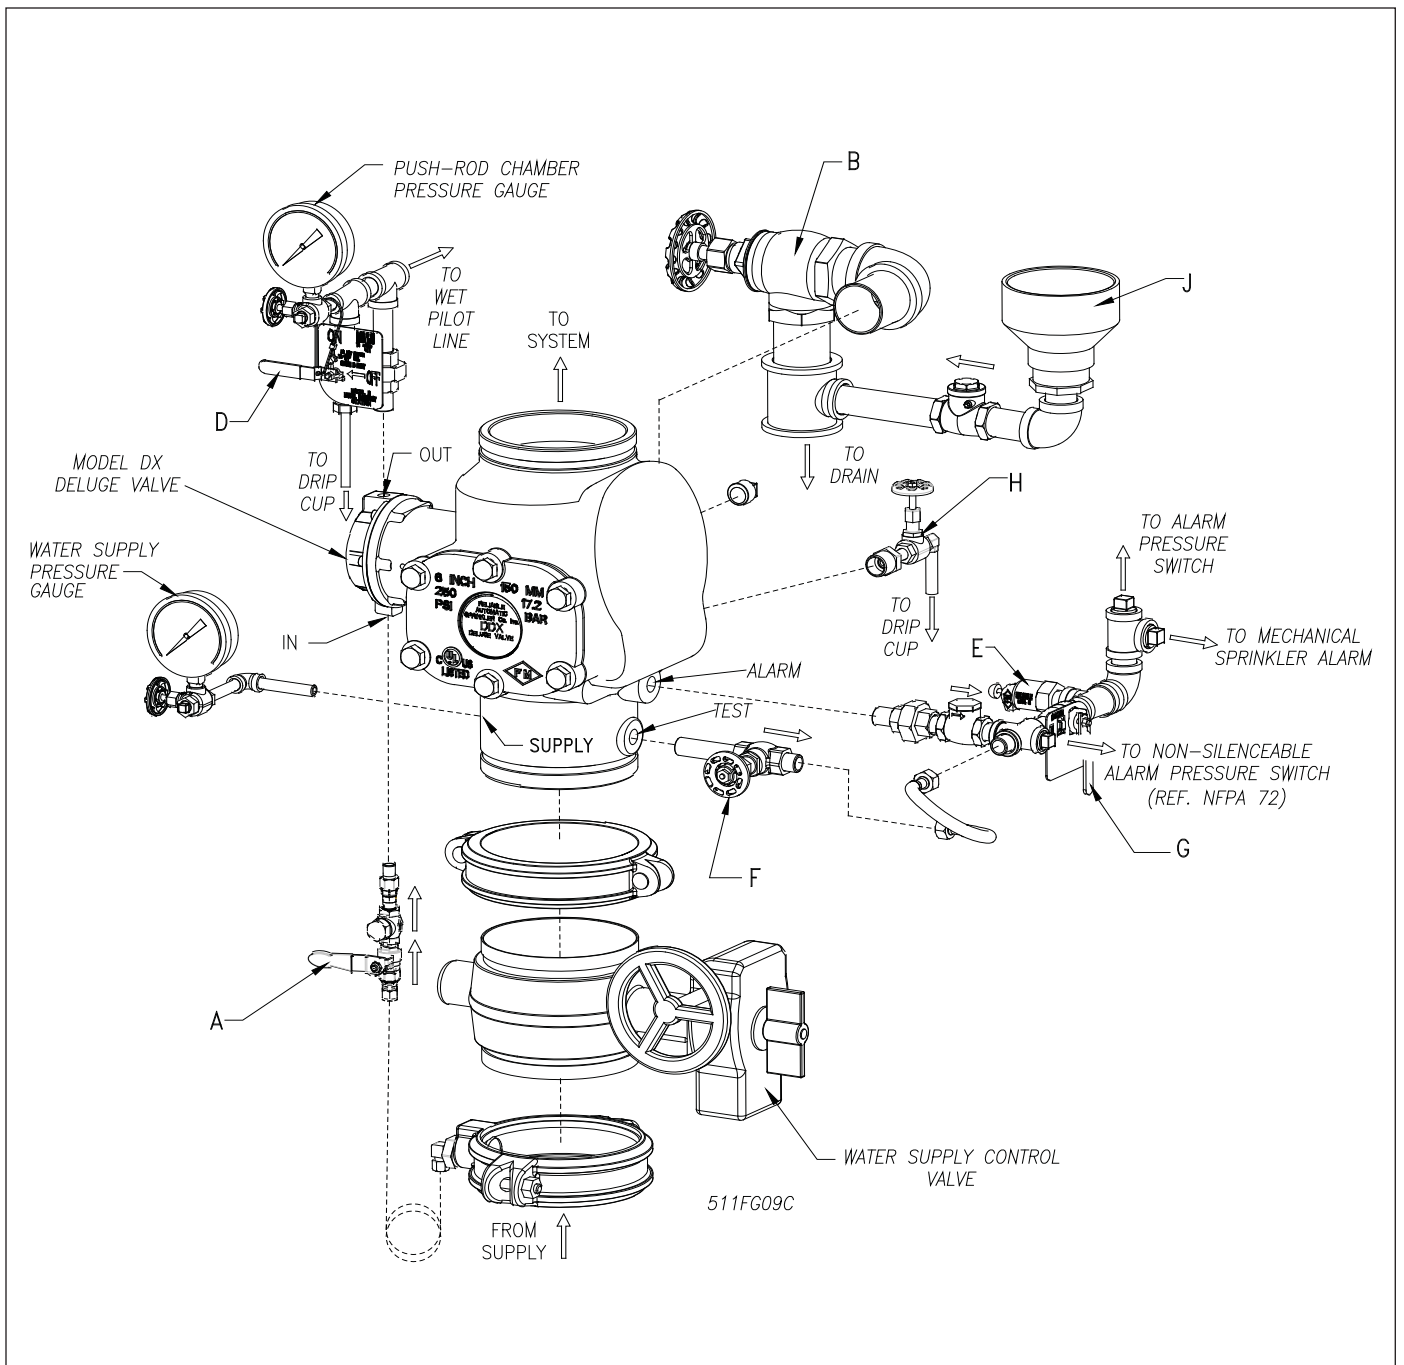

Fig. 9
1. Close the valve controlling water supply to the Deluge Valve and close valve A (Fig. 9).
2. Open main drain valve B (Fig. 9) and drain system.
3. Open all drain valves and vents at low points throughout the system, closing them when flow of water has stopped. Open valve D (Fig. 9).
4. With valve G (Fig.9) open, push in the plunger of ball drip valve E (Fig. 9), forcing the ball from its seat to verify that there is atmospheric pressure inside the main valve chamber.
7. Open valve A (Fig. 9) and allow water to fill the push rod chamber. Close valve D (Fig. 9).
- C. Dry Pilot Trim — open valve D (Fig. 9) allowing water to flow through the pilot line actuator. When all air has been expelled from the release line, and there is a solid flow of water into the drain cup J (Fig. 9), apply compressed air or nitrogen through the pressure maintenance device to close the pilot line actuator. Subsequently, close valve D (Fig. 9) or (#7, Fig. 5) and adjust the air or nitrogen pressure to the appropriate value in Table A as indicated on air pressure gauge (#26, Fig. 5).
9. Check that valves D (Fig. 9) and F (Fig. 9) are closed and that valve G is open (Fig. 9). Open slightly the valve controlling water supply to the Deluge Valve, closing the main drain valve B (Fig. 9) when water flows. Observe if water leaks through ball drip valve E (Fig. 9), into drain cup J (Fig. 9) (Be sure that valve G (Fig. 9) is open). If no leak occurs the water seat is tight. Open slowly but fully the valve controlling water supply to the Deluge Valve. Verify that it is fully opened and properly monitored.
10. Valve A (Fig. 9) must remain open when the Deluge Valve has been reset, to maintain water pressure in the push rod chamber.
11. Verify that the Model B Manual Emergency Station, valve D (Fig. 9) is sealed in the OFF position with the appropriate nylon tie.
2. **Alarm line** — be sure that valve G (Fig. 9) is opened and remains in this position.
3. **Other trimming valves** — check that valve A (Fig. 9) is open, as well as all of the pressure gauge's "3-way valves. Valves D, F, & H (Fig. 9) should be closed.
4. **Ball drip valve E (Fig. 9)** — Make sure valve G (Fig. 9) is open. Push in on the plunger to be sure ball check is off its seat. If no water appears, the Deluge Valve's water seat is tight. Inspect the bleed hole (see Fig. 8) on the underside of the push rod chamber for leakage.
7. **Testing alarms** — Make sure valve G (Fig. 9) is open. Open valve F (Fig. 9) permitting water from the supply to flow to the electric sprinkler alarm switch and to the mechanical sprinkler alarm (water motor). After testing, close this valve securely. Push in on the plunger of ball drip valve E (Fig. 9) until all of the water has drained from the alarm line.
8. **Operation test** — Open the Model B Manual Emergency Station, valve D (Fig. 9).
9. Secure the Model B Manual Emergency Station, valve D (Fig. 9), in the OFF position with nylon tie after Deluge Valve is reset.
1. Close the valve controlling water supply to Deluge Valve and open the main drain valve B (Fig. 9).
2. Verify that valve A (Fig. 9) is open, allowing water to enter the push rod chamber.
- A. Wet Pilot Trim — open Model B Manual Emergency Station, valve D (Fig. 9).
Refer to Fig. 9
2. **Leakage out of the ball drip valve E (Fig. 9).**
- b. **Leakage, air or water from the ball drip valve, E (Fig. 9):**
- A) Shut down the valve controlling the water supply to the Deluge Valve and open the 2" main drain valve B (Fig. 9). Open the water column drain valve H (Fig. 9). Close the push rod chamber supply valve A (Fig. 9) and open the Model B Manual Emergency Station D (Fig. 9).
- a) Shut down the valve controlling water supply to the Deluge Valve. Relieve the inlet pressure by opening the 2" drain valve B (Fig. 9). Close the valve A (Fig. 9) that supplies water to the push rod chamber, and open the Model B Manual Emergency Station, valve D (Fig. 9).